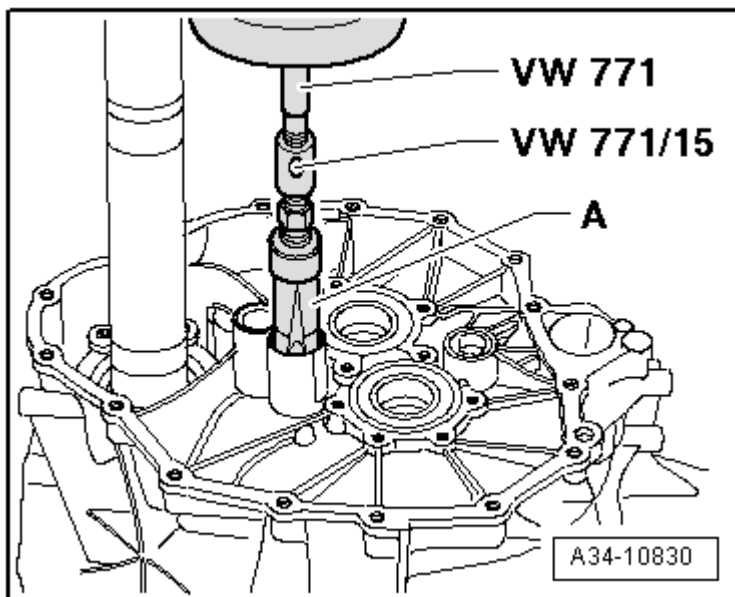

Fig. 72: Removing Bearing Bushing For Gearshift Rail / Shift Fork
- Removing, refer to **Fig. 72**